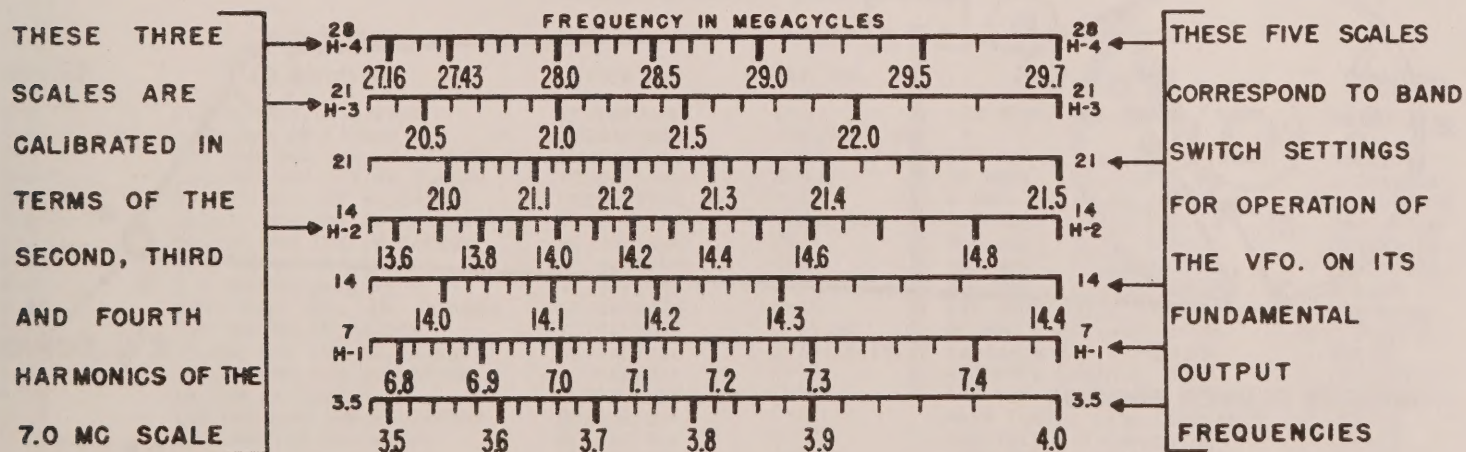

Figure 4. Dial Scale Calibrations
V.F.O. Operation - Set OPERATION switch at M.O., BAND SELECTOR control for the band of frequencies required to obtain the desired output frequency from the final amplifier stage of transmitter being driven by the HT-18. For example, if a doubler stage follows the HT-18 unit, then the HT-18 output will have to be one-half the frequency of the final amplifier stage, etc. Referring to Fig. 4. you will note that there are five calibrated scales showing the output frequency of the V.F.O. unit. These five scales indicate carrier frequency when the transmitter being driven does not have a frequency multiplier stage. In addition to the five fundamental scales, there are three scales which are multiples of the 6.8 to 7.4 mc. scale. The harmonic scales indicate carrier frequency only when the output of the HT-18 is in the 6.8 to 7.4 mc. band. When the transmitter being driven has a doubler stage use the H-2 scale, a tripler stage use the H-3 scale, or a quadrupler or two doubler stages use the H-4 scale. To set the V.F.O. unit to the receiver frequency, set the CHECK switch handle at